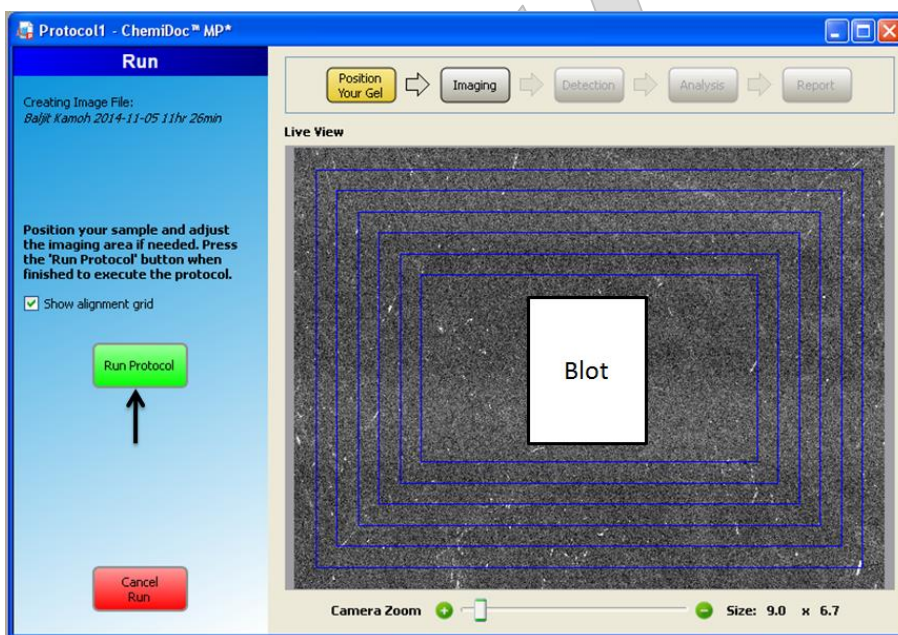

Figure 22
8.2.8. Centre the blot on the imager deck if needed to fit in the viewer of the software (Figure 22). If necessary, open the deck and physically move the blot to adjust. Once the blot is centered, click on the 'Run Protocol' icon.